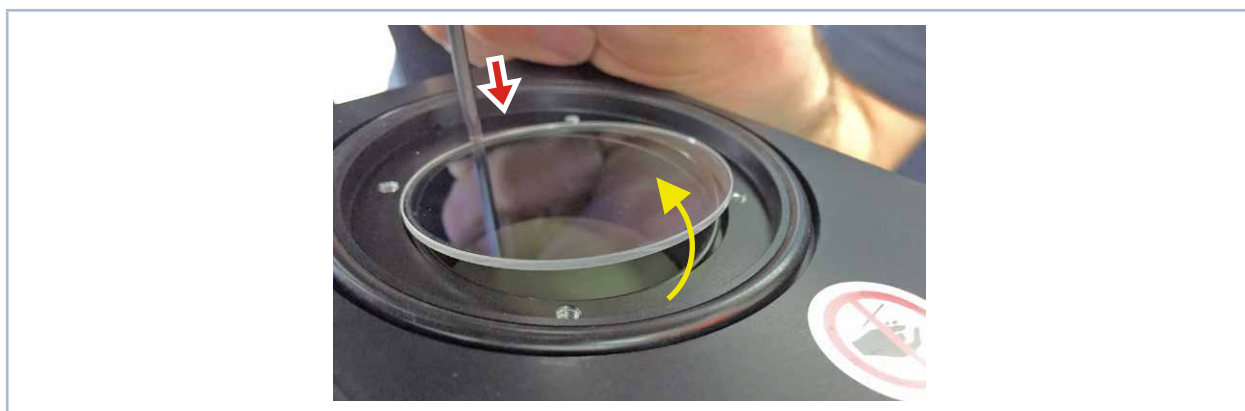

Fig. 15.2: How to lift the protective window
4. Push down the protective window using a blunt object. Only touch its edge and take it out carefully (see Fig. 15.2 on page 67). In case the o-ring clings to the protective window, remove it and reinsert it into the aperture.